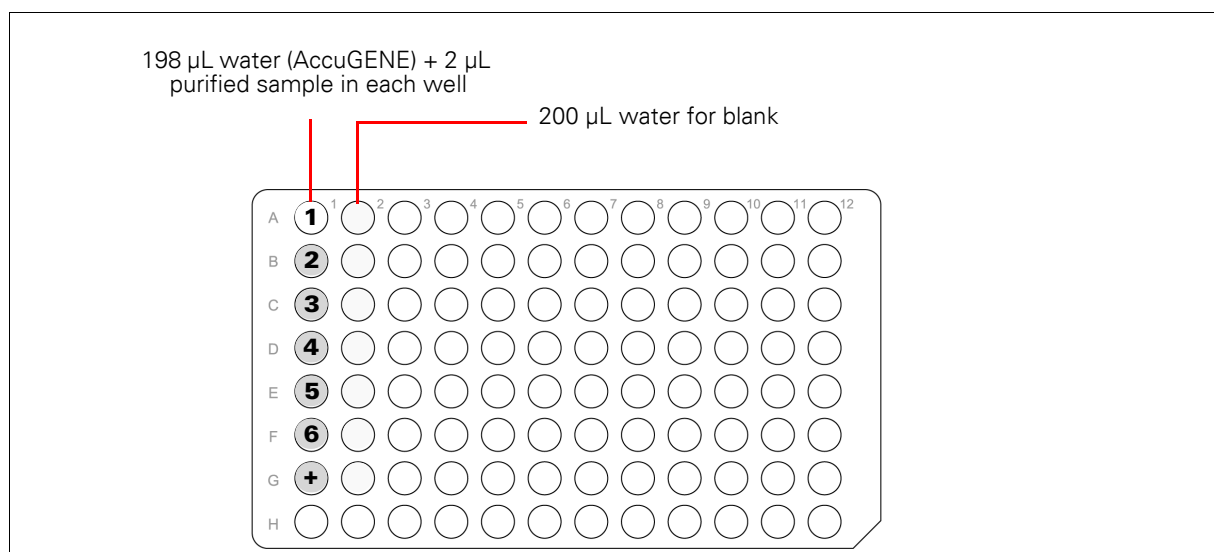

Figure 4.22 UV plate layout.
2. Pipet 200 μL of water into each well of an empty column (Figure 4.22 below).